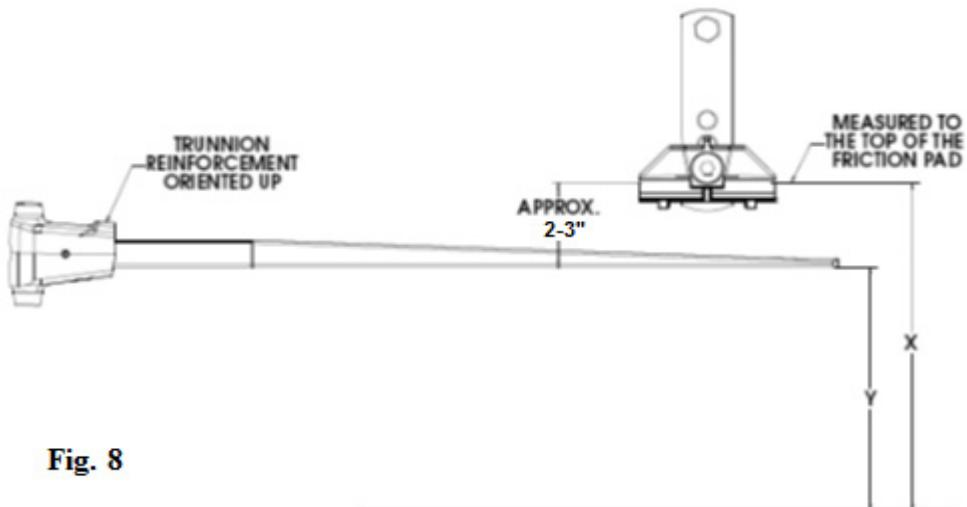

Fig. 8
- Install 5/8" Nylon lock nut (P) onto 5/8" shoulder bolt and torque to 50-75 ft*lbs. The top nut flat may need to be oriented horizontally to prevent interference with the frame for higher mounting locations (See Fig. 4). **NOTE:** During spring bar setup, it may be necessary to use a lower bracket hole to decrease spring bar load if there is not enough head angle adjustment (See Fig. 8).
- Torque 5/8" lock nuts (S) to 120 ft*lbs.
COUPLER: Use the lower pad hanger mounting holes in the outside frame brackets and adjust the ball mount angle to achieve the proper height before loading the spring bars (See. Fig. 8).
- Insert shoulder bolt (Y) through the pad hanger (M) and the hole in the outside frame bracket (T) which allows the proper height shown in Fig. 8.
NOTE: During spring bar setup, it may be necessary to use a lower bracket hole to decrease spring bar load if there is not enough head angle adjustment (See Fig. 8).
MOUNTED/INVERTED COUPLER: Use the lower pad hanger mounting holes in the outside frame brackets and adjust the ball mount angle to achieve the proper height before loading the spring bars (See. Fig. 8).
- Level the trailer. Measure and record the distance from the ground to the top of the friction pad (X dimension Fig. 8).
- Install spring bar - Orient the spring bar/trunnion assembly with the trunnion reinforcement to the top (rating label side up) shown in Fig. 8. Set the bottom pin of the trunnion into the lower socket of the ball mount and slide the top trunnion pin into the top slot in the ball mount. Spring bar/trunnion assemblies will fit on either side.
- As a starting point, the spring bar height "Y", shown in Fig 8, should be approximately 2 to 3" less than the friction pad height "X".
- Install spring bars - orient the spring bar/trunnion assembly with the trunnion reinforcement facing up as shown in Fig 8. Set the bottom pin of the trunnion into the lower socket of the ball mount and slide the top trunnion pin into the top slot in the ball mount. Spring bar/trunnion assemblies will fit on either side.
- Using the tongue jack, raise the tongue of the trailer and rear of vehicle as high as possible and attempt to set spring bars on top of pad hangers. If bars will not swing over the pad hanger, use of the lift handle (W) will be required.